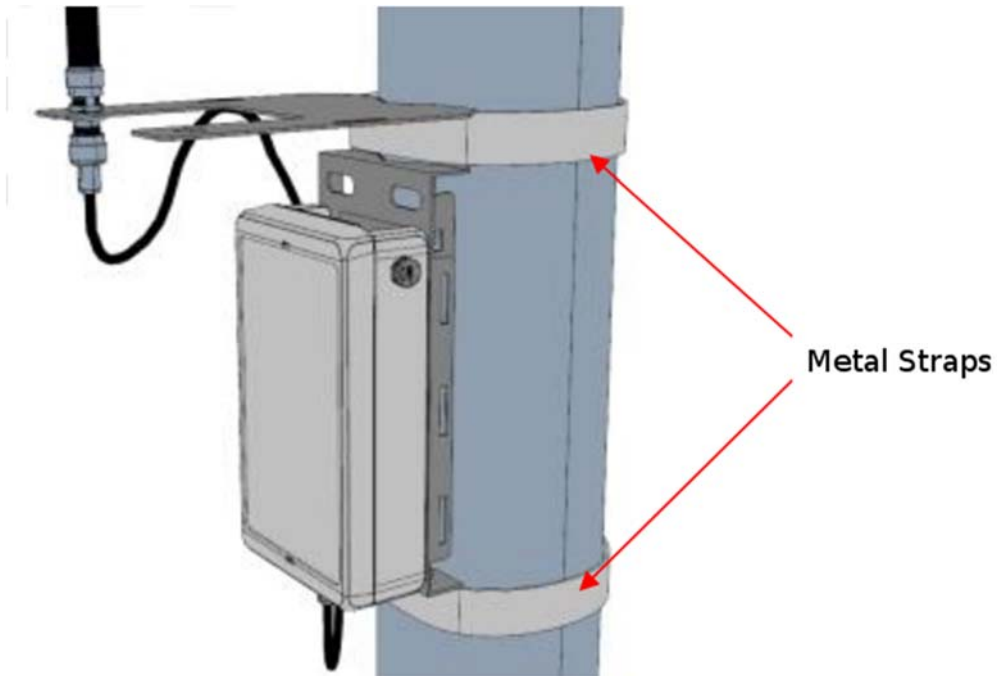

Figure 21: Gateway mounted on a pole.
- Metallic strapping mounting (tube, pipe, flue.) (Figure 21)